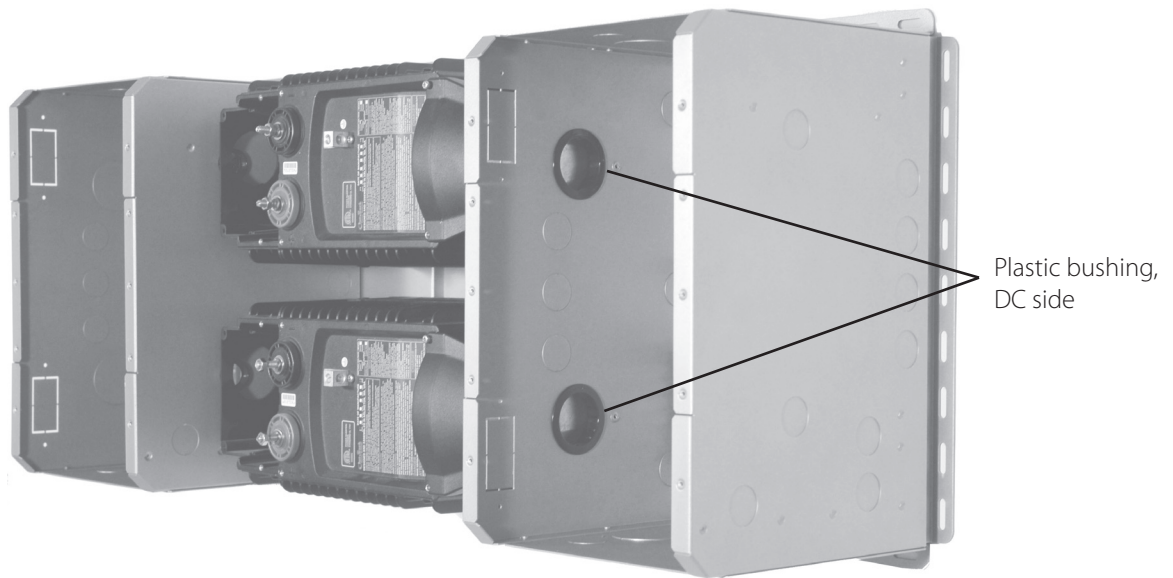

Figure 11: DCA bushing
- Install the plastic bushing from inside the chassis into the DCA (see Figure 11).